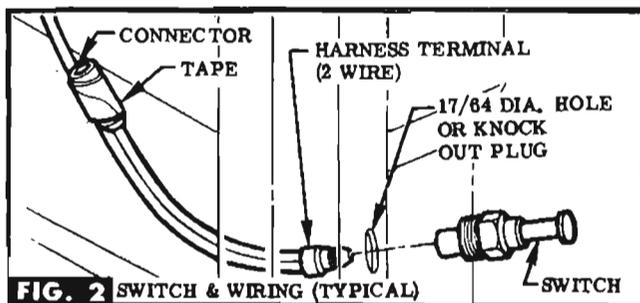

FIG. 2 SWITCH & WIRING (TYPICAL)
- CURELY (EACH SIDE). SEE FIG. 2.
- STEP 5** (WITHOUT JAMB SWITCHES) TAPE CONNECTOR ON SHORT WIRE TO HARNESS. PLUG LAMP HARNESS TERMINAL INTO SWITCH (EACH SIDE). SEE FIG. 2.
STEP 4 DRILL HOLE THRU EXISTING DIMPLE IN FRONT DOOR HINGE PILLAR & SCREW JAMB SWITCH IN SECURELY (EACH SIDE). SEE FIG. 2.
STEP 5 TAPE CONNECTOR ON SHORT WIRE TO HARNESS. PLUG LAMP HARNESS TERMINAL INTO SWITCH (EACH SIDE). SEE FIG. 2.